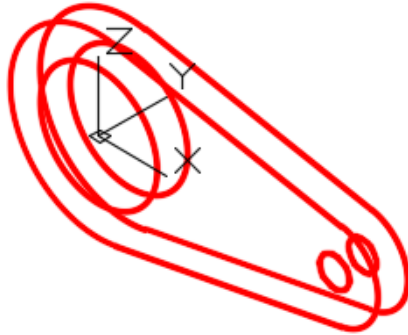

Figure Step 6
Step 6 Enter the ROTATE3D, as shown below, to rotate the model 90 degrees counterclockwise around the X axis. (Figure Step 6)